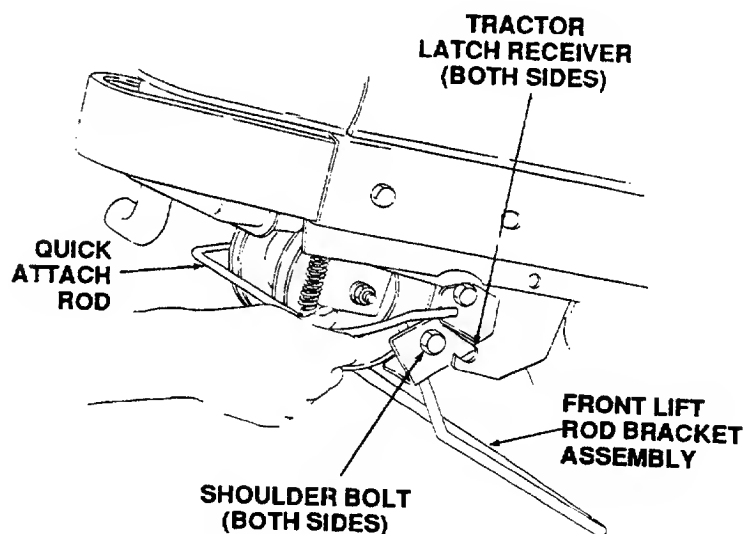

Figure 43
12. Referring to Figure 43, push downward and hold the tractor quick-attach rod. Slide the left and right shoulder bolts of the front lift rod bracket assembly forward, and free of, the left and right tractor latch receivers. Release the tractor quick-attach rod.